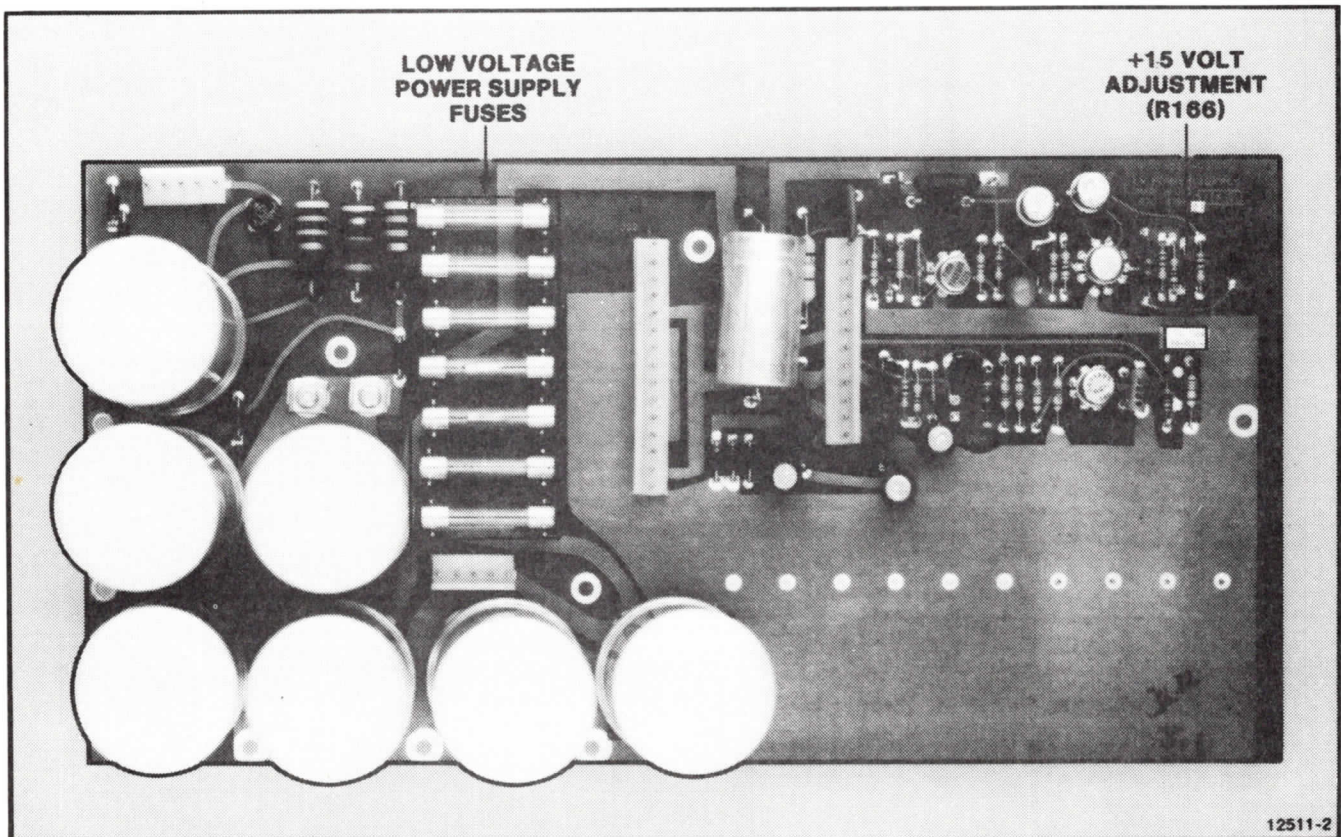

Figure 10-13. Low Voltage Power Supply Board Fuse Locations.
14. On the Low Voltage Power Supply (LVPS) board, check the cables from the power supply to the Interconnect board for defects. Make sure that all wiring is fastened securely. Make sure that the line fuse is securely seated. Also, make sure that the following fuses have the correct ratings and are installed correctly. See Figure 10-13 for the location of these fuses.